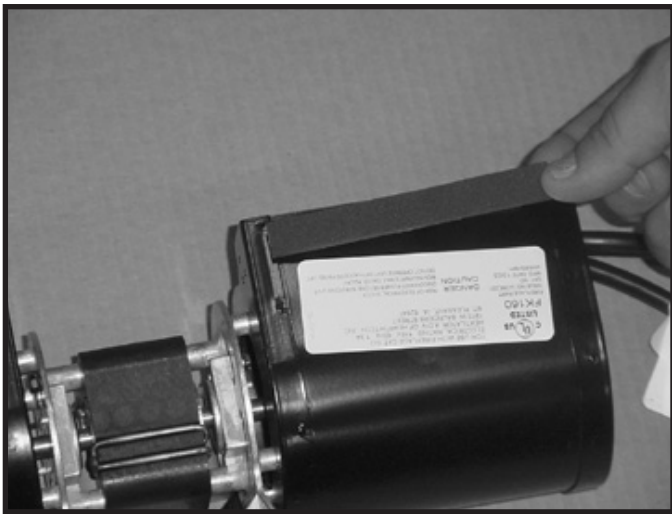

Figure 2 Attaching Foam Strips
2. Attach the foam strips, included in kit, to new fan as shown in Figure 2.